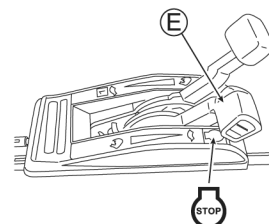

Fig. 13
2. Set Throttle lever (E) to "STOP". (See Fig. 13)